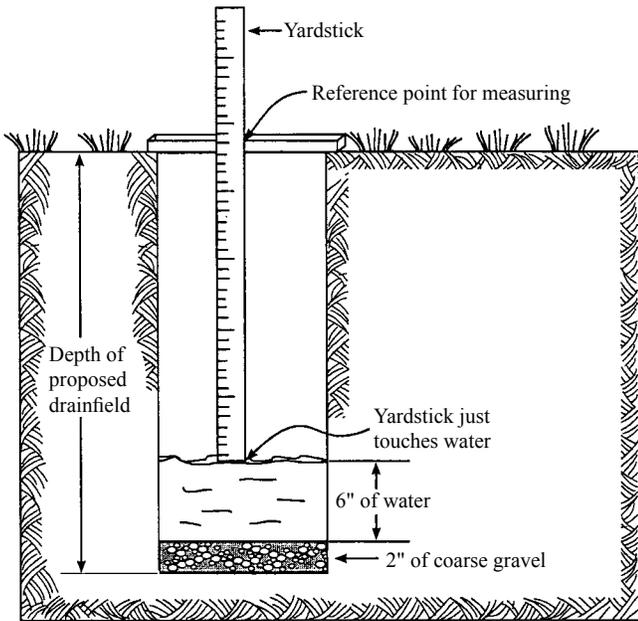
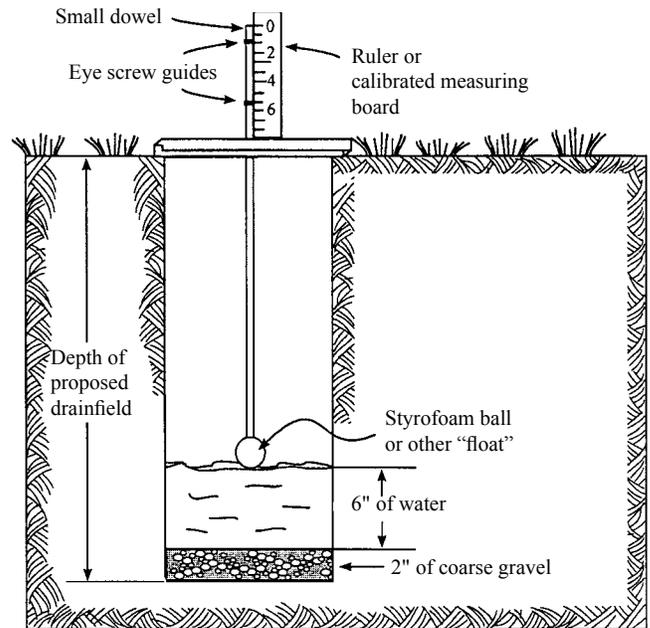

Figure 1. Percolation test hole.
Figure 2. Alternative device.
2. **Roughen sidewalls and bottom.** Because tools may have smoothed, compacted, or sealed the sides and bottom of the hole during digging, roughen or scratch the sides and bottom of the hole with a knife, or nails driven into a board. Remove all loose material and place about 2 inches of 1/4- to 3/4-inch clean gravel in the hole to prevent bottom scouring (*Figure 1*).
4. **Measure soil percolation rate.** Measure the percolation rate the day after the saturation process, except in sandy soils as previously discussed. Record the readings on paper and store with the onsite system records. As shown in *Figure 1*, the general measurement strategy is to place a board horizontally across the hole and anchor it firmly in position. Add or remove water as needed to maintain a depth of 6 inches over the gravel. One way to measure the depth is to slide a yardstick or pointed stick straight down until it just touches the water surface. Immediately record the time and depth (or draw a horizontal line on the measuring stick), using the horizontal board as a guide and reference point. Alternative measuring devices can be constructed as illustrated in *Figures 2* and *3*.